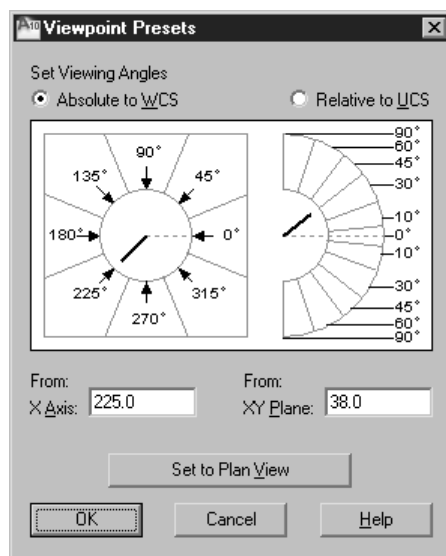

Figure 25-29 The Viewpoint Presets dialog box
4. Set the value of the **XY Plane** edit box to **38**, as shown in Figure 25-29. Choose **OK**.